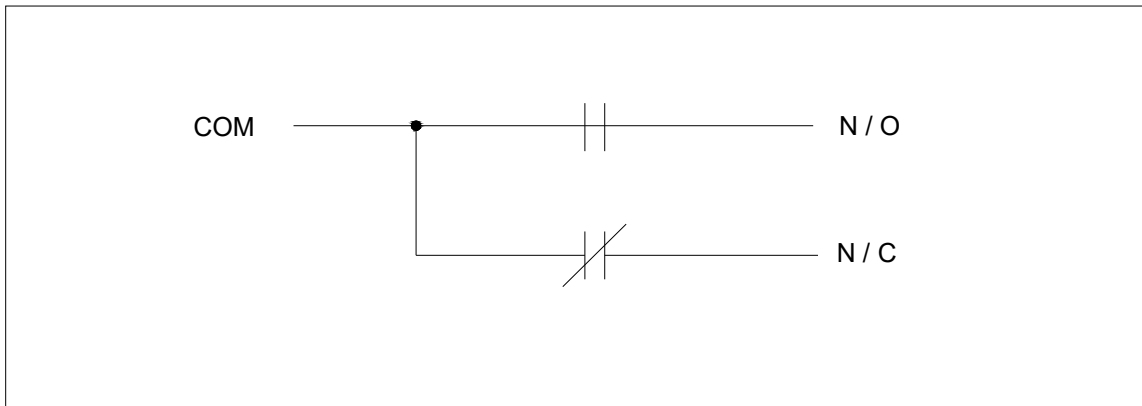

Figure 10
**NORMAL FLOW INDICATION (Fig.10)**